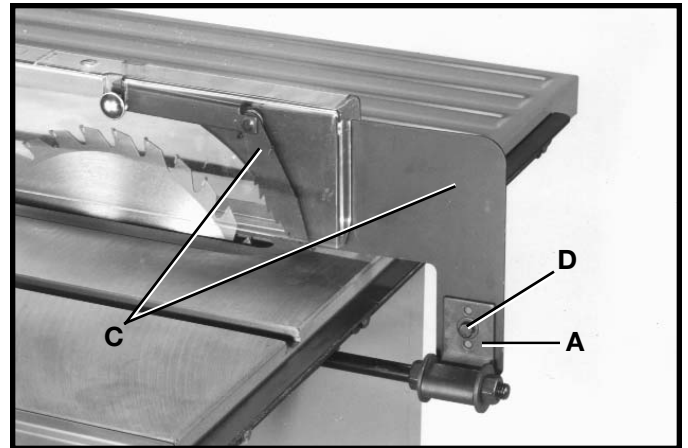
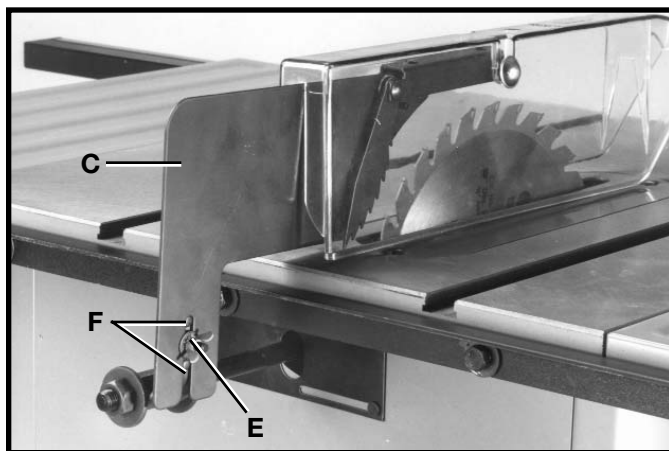

Fig. 27
Fig. 28
3. Assemble the blade guard and splitter assembly (C) to the splitter bracket (A) using the hex head screw, star washer and flat washer (D) Fig. 27, and wing nut, star washer and flat washer (E) Fig. 28.
4. **NOTE:** Make certain the two protrusions, "pins" (F) Fig. 28, are engaged with the channel of the splitter assembly (C) before tightening wing nut (E).